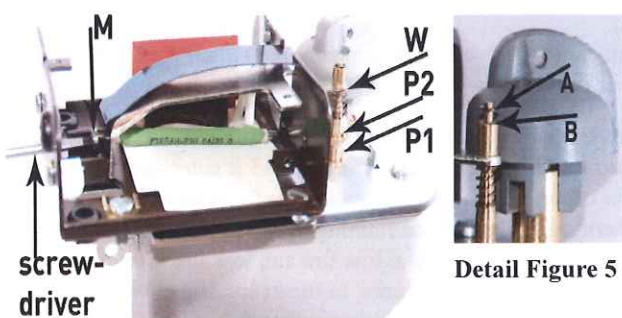

Figure 5
Fig. 5 a screwdriver is used to turn screw (M) to adjust the setting (W) between the operating arm (P2) and the thermostat pin (P1). In 'Detail Fig 5' for the basic adjustment it is necessary for a distance between (A) and (B) of a minimum of 1.5 mm and maximum of 2.0 mm. Turn the screw (M) clockwise to reduce the flow adjustment delay and anticlockwise to increase flow adjustment delay.